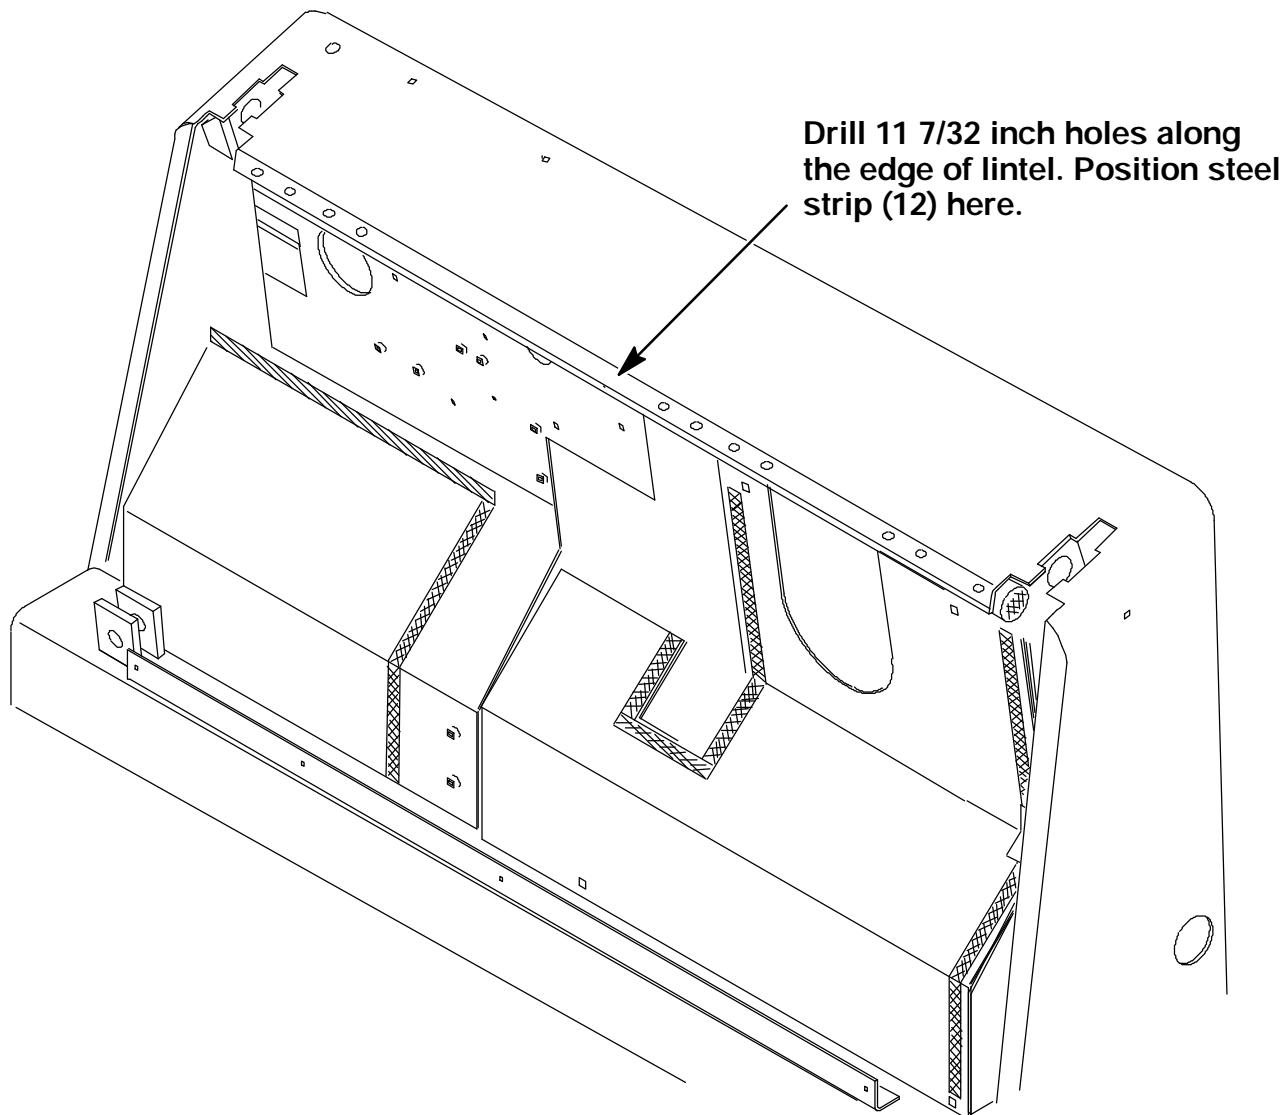

FIG. 2 - Velcro Strip Locations
(Refer to FIG. 2)
1. Lift the operators seat and install the seat side seal (10) in the location shown in FIG. 2.